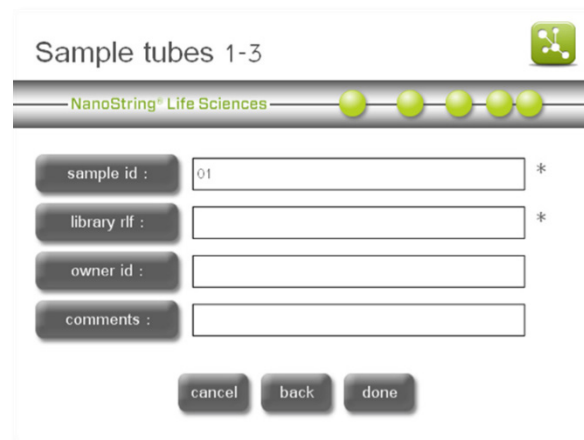

Figure 77: The 'Sample tubes' screen.
10. Select the tubes for which sample information will be entered by pressing the appropriate tube on the screen. To select all tubes and enter the same information for all, press the **select all** button. Selected samples will be highlighted in green. Press **next** to proceed. The 'Sample tubes' screen will appear (**Figure 77**).